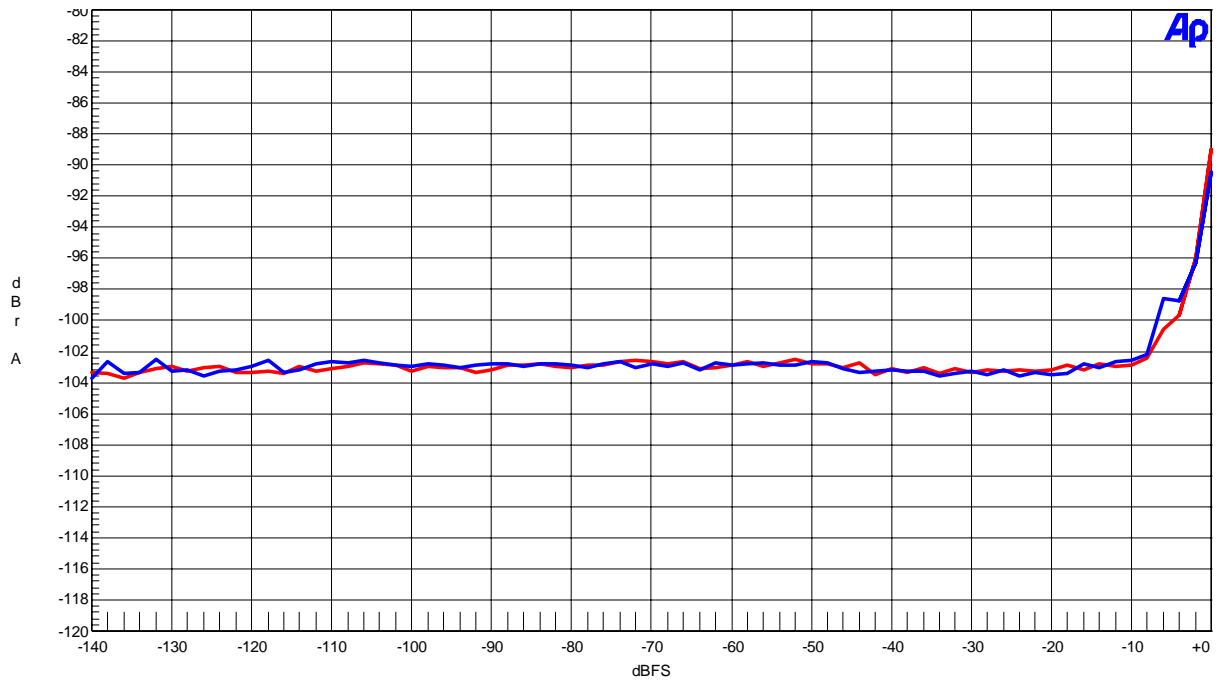

Figure 12. THD+N vs Input Level (Input Frequency=1kHz)
- Figure 12. THD+N vs Input Level (Input Frequency =1kHz)